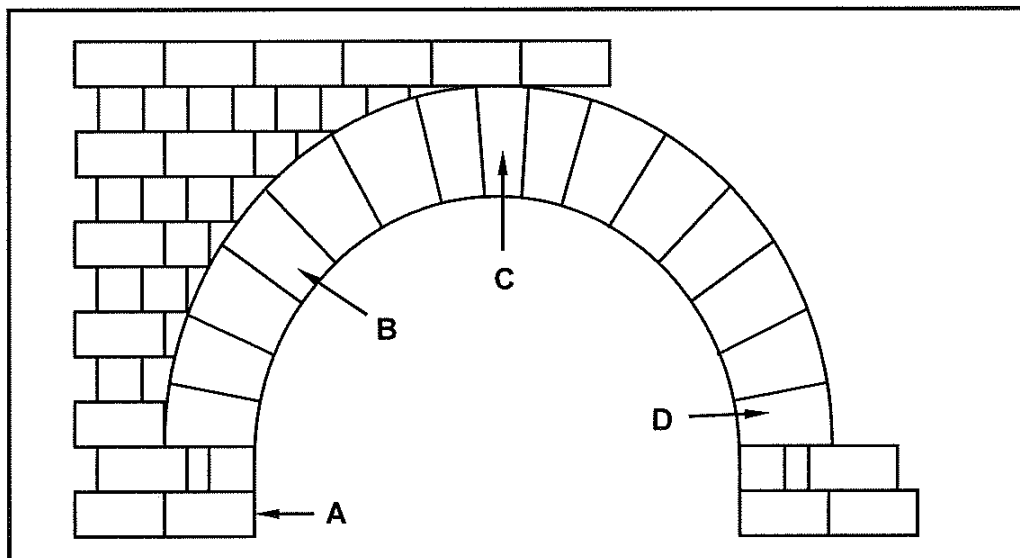

FIGURE 5.5
5.5 FIGURE 5.5 below shows an arch in a wall.